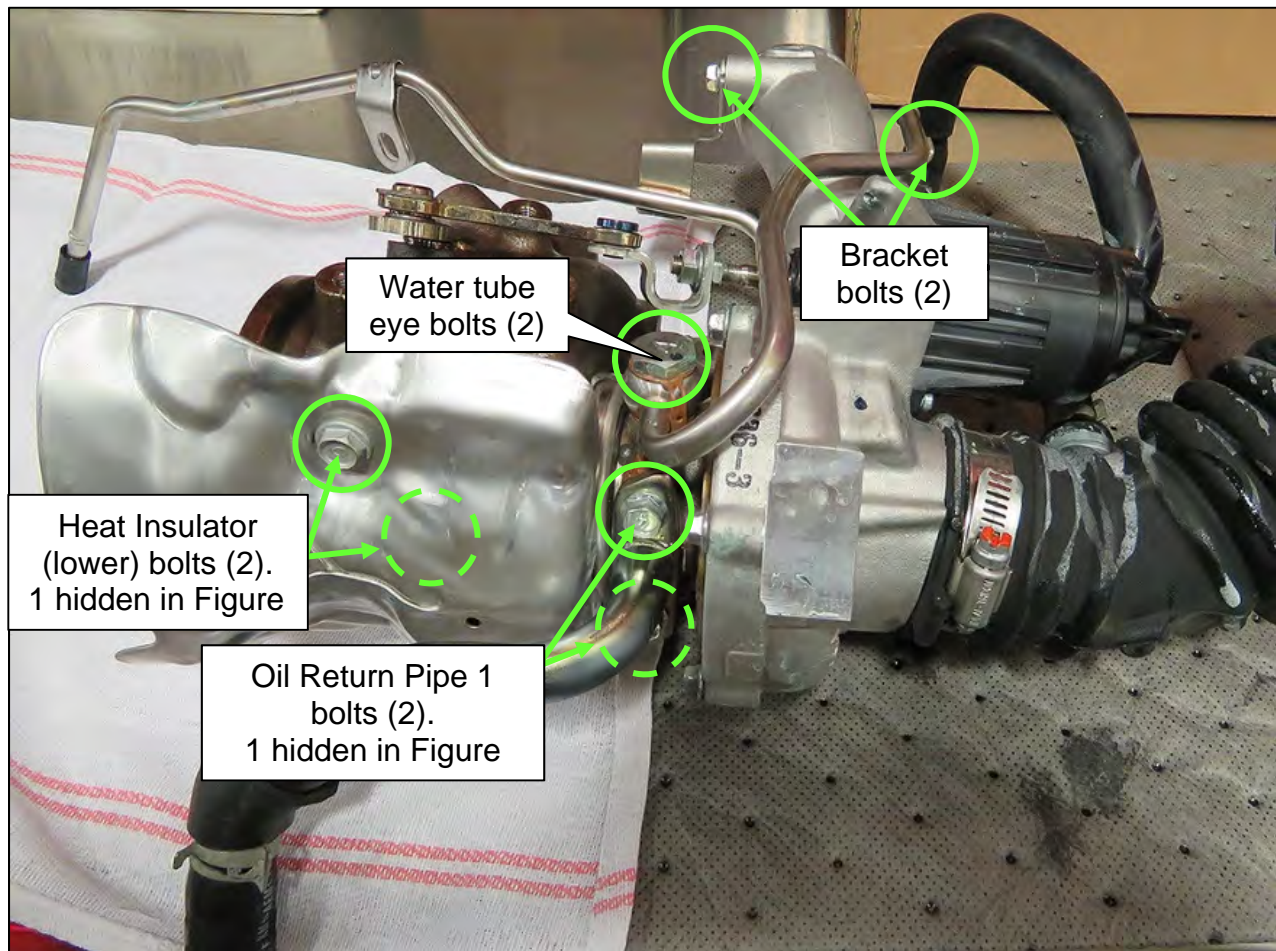

Figure 55
**HINT:** One (1) Water tube eye bolt is hidden in Figure 55.